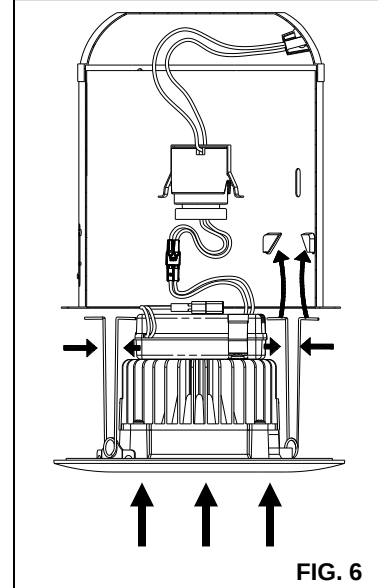

FIG. 6
4. If using TORSION SPRINGS, squeeze both TORSION SPRING arms together and insert into the TORSION SPRING SLOTS (or C-CLIPS) of the CAN. **(FIG. 6)**
2. If using TORSION SPRINGS, squeeze both TORSION SPRING arms together and insert into the TORSION SPRING SLOTS (or C-CLIPS) of the CAN. Tuck all wires into the CAN and carefully push the RETROFIT TRIM into CAN. **(FIG. 6)**
9. Re-install the RETROFIT TRIM into the RECESSED HOUSING. **(FIG. 6)**